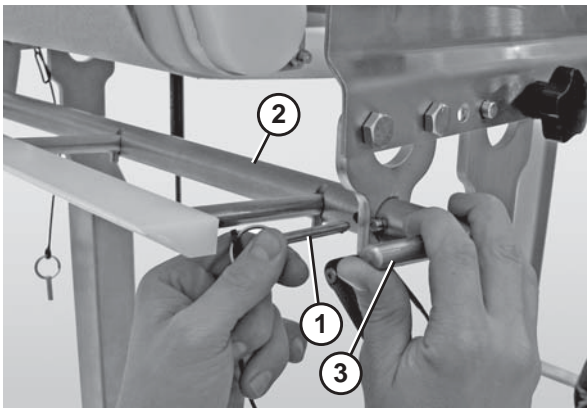

Figure 27
- Insert the pin (Figure 27, item 1) to lock the scraper bar in place (Figure 27, item 2).
- Adjust the scraper to the desired position using the scraper bar handle (Figure 27, item 3).